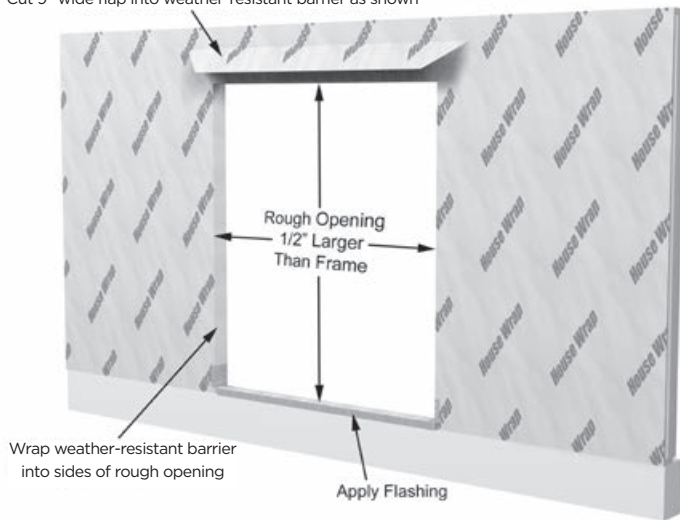

Figure 5 — Typical Rough Opening
4. **(Recommended)** Apply flashing to the sill where the door will sit, extending up each side of the opening as shown (**Figures 5 & 6**).